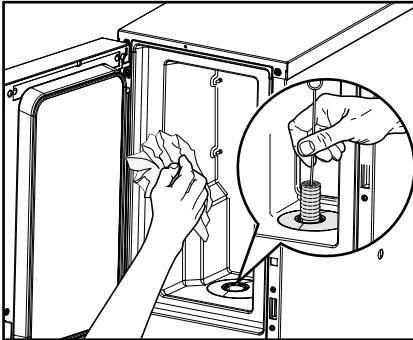

Fig. 24
4. Clean the interior of the cooling compartment with a clean, damp cloth and the doser opening with a brush (fig. 24).